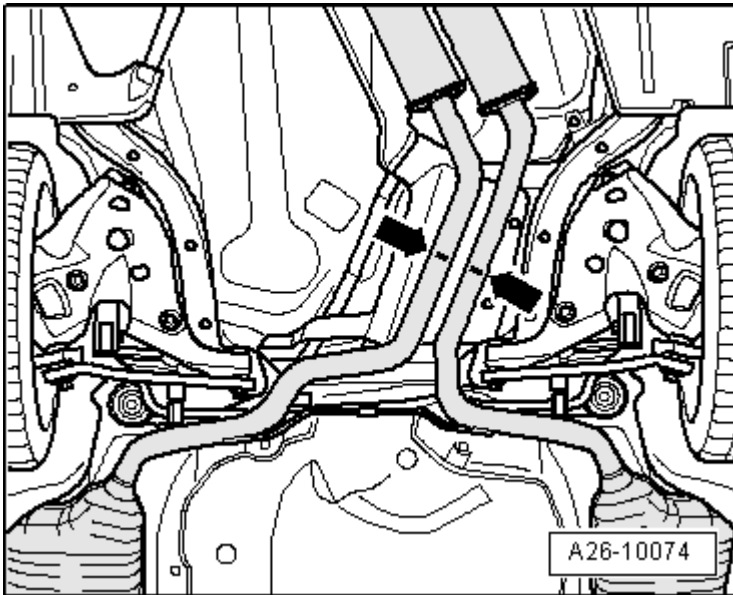
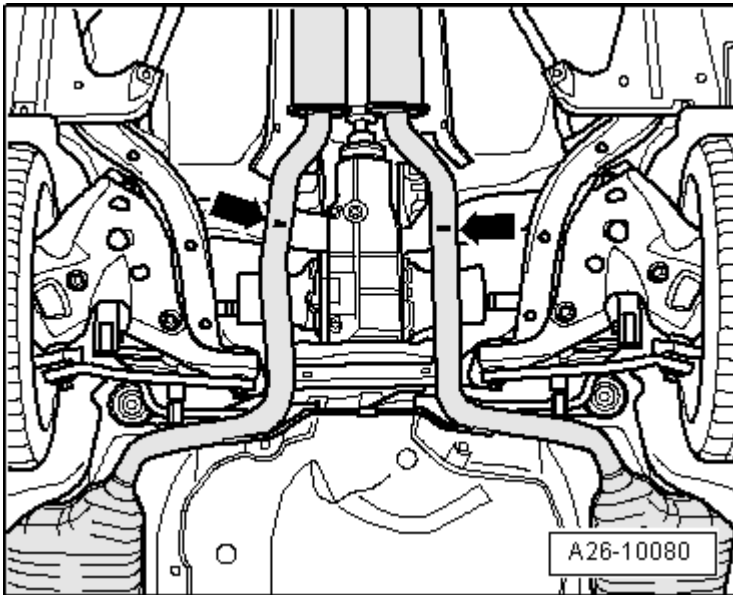

Fig. 582: Separating Exhaust Pipes At A Right Angle At Separating Point Using Chain Pipe Cutter VAS 6254
Fig. 585: Separating Exhaust Pipes At Separating Point Using Chain Pipe Cutter VAS 6254 At Right Angle
- Separating point: Vehicles with front-wheel drive --> **Fig. 582** , Vehicles with all-wheel drive --> **Fig. 585**